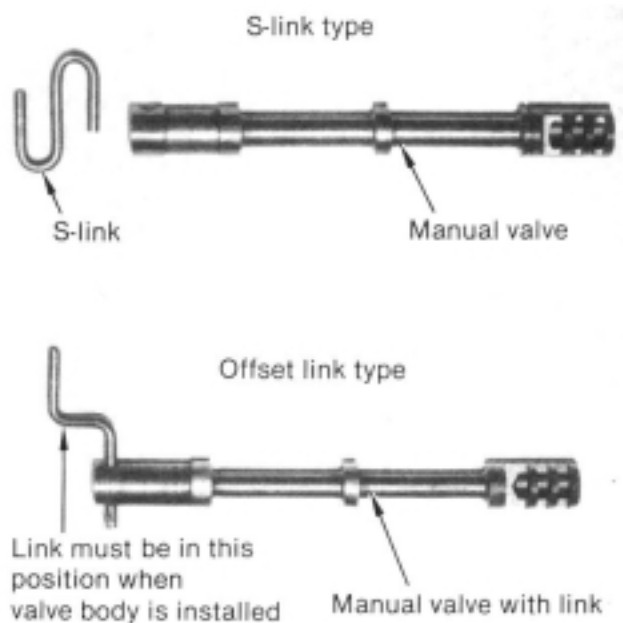

FIGURE 9
“S” link model (See Fig. 9): Rotate the range inner selector lever noting clearance with bolt ‘A’ (See Fig. 8) If range selector inner lever contacts bolt “A” head or there is not a 1/16" clearance between the two, mark that area of bolt head. Remove bolt & grind or file angle flat at that portion of bolt head. Reinstall bolt and check clearance again. Failure to provide clearance may keep transmission shifter from fully shifting or cause a lock up between drive and second. Failure to provide detent roller engagement into range selector inner lever may prevent transmission from shifting into park.
STEP 13. Remove center pan bolt. Guide valve body into position. Engage manual valve linkage in selector lever. “S” link can only be installed one way. Offset linkage must be installed with the link in the forward position. (See Fig. 9) Install valve body bolts finger tight. Install detent roller spring so it engages range selector inner lever. Tighten valve body bolts to 100 in.-lbs. Make sure range selector inner lever operates freely at this point with positive indexing in each gear.
“S” link model (See Fig. 9): Rotate range selector inner lever all the way forward and check to see that bolt ‘B’ does not prevent range selector inner lever from going into last detent slot. (See Fig. 8) If bolt head ‘B’ prevents this action, rotate range selector inner lever out of the way. Remove bolt and grind or file a